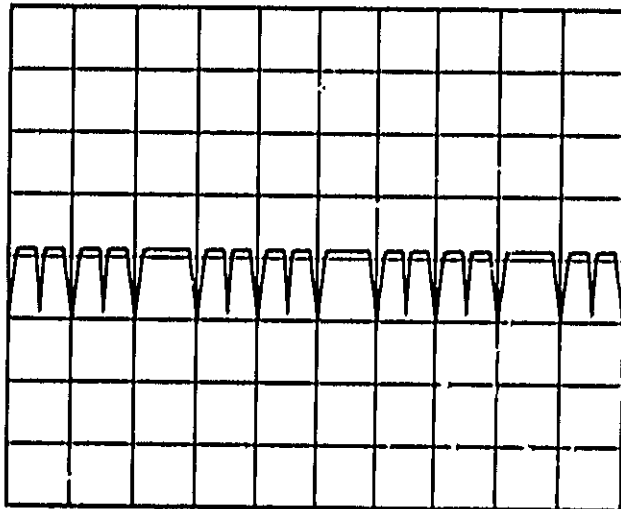

Figure 5-38b. Markers incorrectly adjusted
3. On the HP 8755C, observe the 1 dB markers riding on a varying power level. Press CF ↑ to step through the band (10 MHz-2.0 GHz). If the markers seem weak, ragged, or start flashing between markers (see Figure 5-38b), adjust gain (A8R53). However, be aware that these adjustments can create double markers or degradation of off pulses. (1 MHz markers are only specified to 1 GHz CF, i.e., correctly adjusted, they may start disappearing or having double markers beyond 1 GHz).